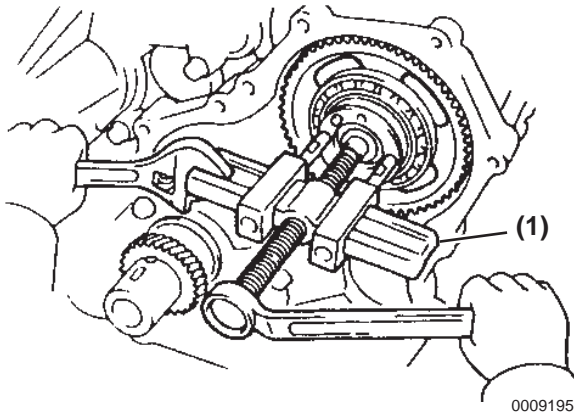

Figure 5-195
19. Remove the fuel injection pump drive gear using the special tool gear puller P/N 119770-01080 (**Figure 5-195, (1)**).